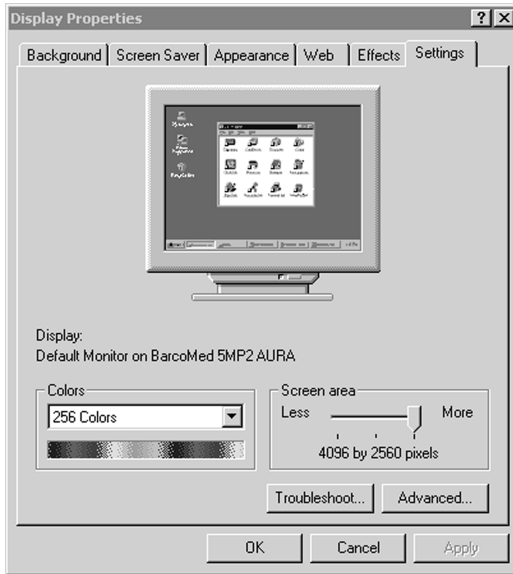

Figure 16: The Windows 2000 Display Properties Control Panel Settings Tab after the drivers have been installed and the resolution set.
1. To set the resolution for your high resolution display(s), right click on the desktop and select “**Properties**”. Select the “**Settings**” tab (see figure 16). Now select the **rectangle** that represents the virtual display of the BarcoMed 5MP1HM Display Controller you are working with.
Note: The system shown in figure 16 above is a single BarcoMed Display Controller, no 3rd party VGA card configuration, your system may look different.